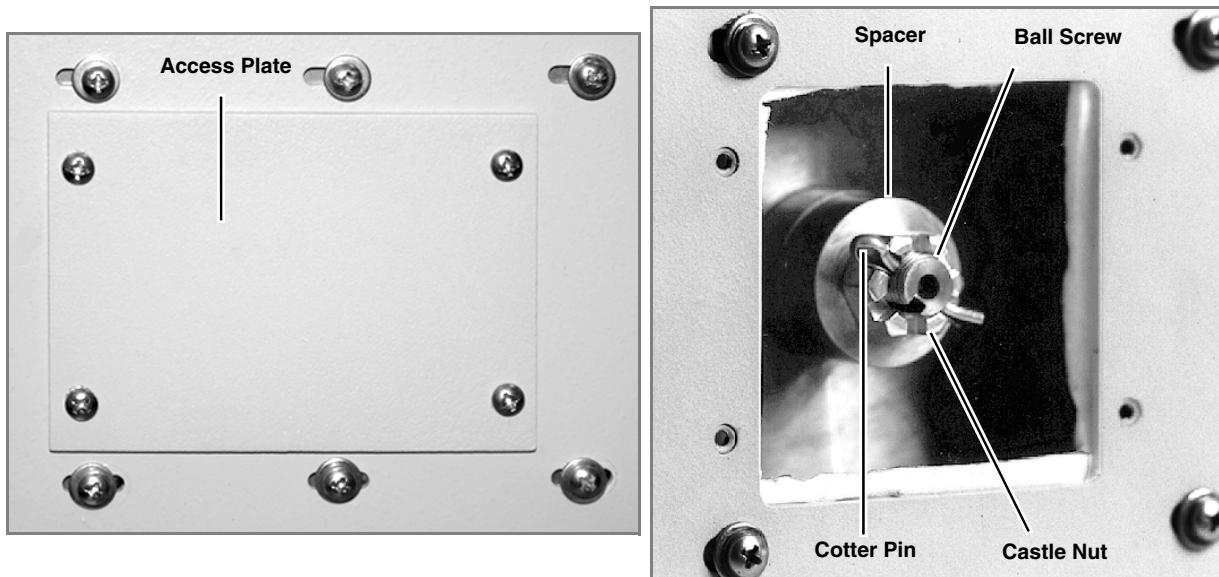

Figure 9-9 Accessing the shear key
1. Place the pump on its side and remove the four panhead screws that attach the access plate to the case bottom, as shown in Figure 9-9.